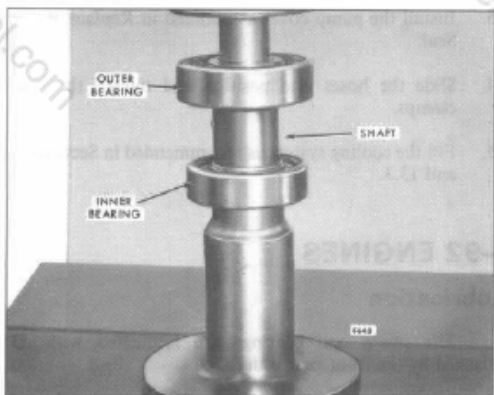

Fig. 12 - Pressing Bearing on Pump Shaft using Tool J 25257
1. Lubricate the bearing bores and shaft bearing surfaces. Use bearing and gear installer J 25257 and install the bearings on the shaft (Fig. 12). Apply pressure to the inner races of the bearings only during assembly on the shaft.
1. Lubricate the bearing bores and shaft bearing surfaces. Use bearing and gear installer J 25257 and press the bearings against the shoulders on the shaft (Fig. 12). Apply pressure to the inner races of the bearing only during assembly on the shaft.